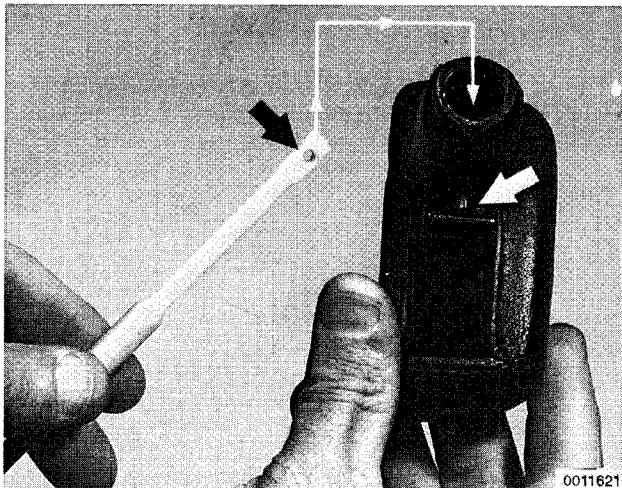

Fig. 11. Engage release button pin to hole in pull rod before installing shift lever handle.
- When installing shift lever handle, engage pin on release button to hole in pull rod. See Fig. 11.